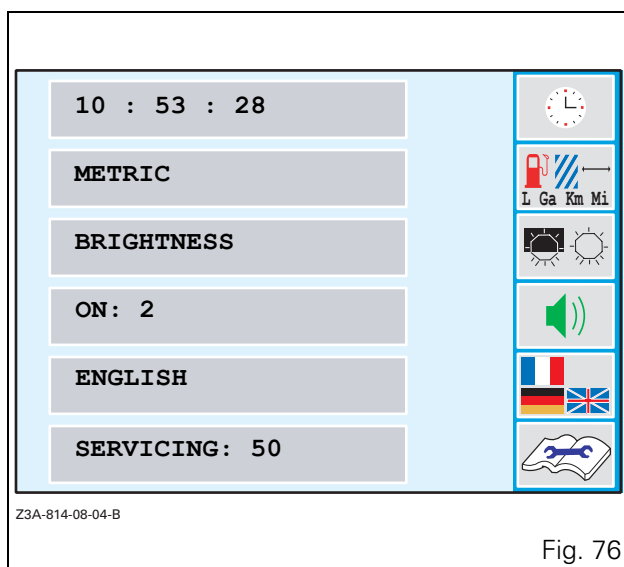
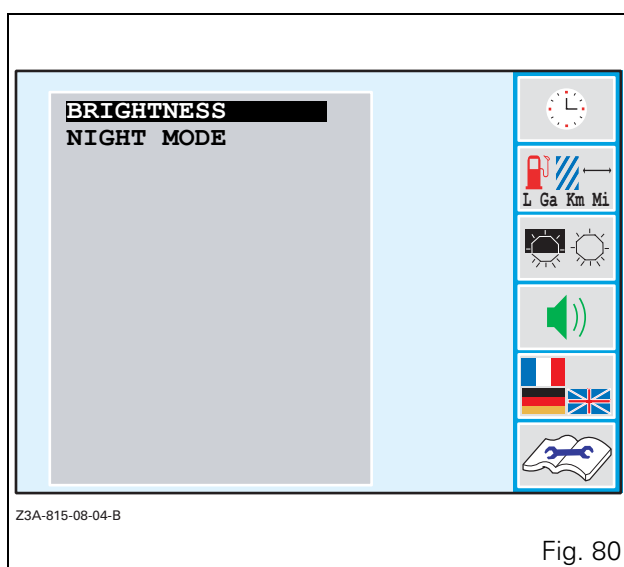

Fig. 76
Fig. 80
- Rotate the encoder (1) to the **SETTINGS** application and press the encoder once the active function is highlighted by red text and a red rectangle around the icon, or press the key <<2 (2). The main menu (Fig. 76) is displayed.
- To exit an application, press the **ESC** key (3).
7.10.2 - Setting parameters (Fig. 76)
- Validate by pressing the encoder. The main menu is now displayed with hours and minutes set (Fig. 76).
- Select the unit adapted to the country by rotating the encoder and validate to return to the main menu (Fig. 76).
- Press the key «3 when the window (Fig. 76) is open. The window (Fig. 80) is displayed.